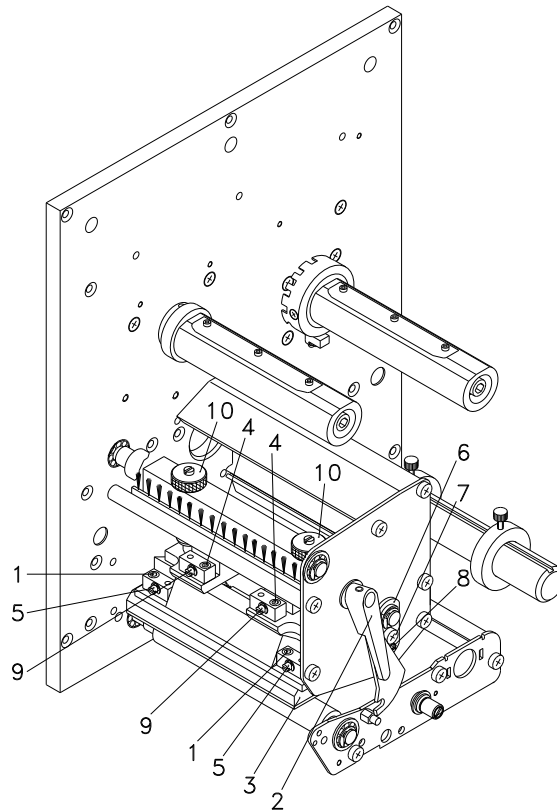

Figure 29
1. Loosen the screws (1 or 4, Figure 29) with a hexagon key by approx. $\frac{1}{4}$ rotations.
2. Adjust the parallelism with the adjusting screws (5 or 9, Figure 29).
4. Tighten again the screws (1 or 4, Figure 29).
1. Loosen the screw (7, Figure 29) with a screwdriver by approx. $\frac{1}{4}$ rotations.
2. In order to achieve a pressure balance, turn the excentric bolt (8, Figure 29) as long as the printing result comes up to your full expectation.
3. Tighten again the screw (7, Figure 29).
1. Turn the pressure screws (10, Figure 29) to change the pressure of printhead.
2. Turning the pressure screws (10, Figure 29) as far as they will go in clockwise direction results in a pressure increase of 10N in contrast to the factory setting.
3. Turning the pressure screws (10, Figure 29) exactly one rotation from the right stop position counter clockwise results in the factory settings.